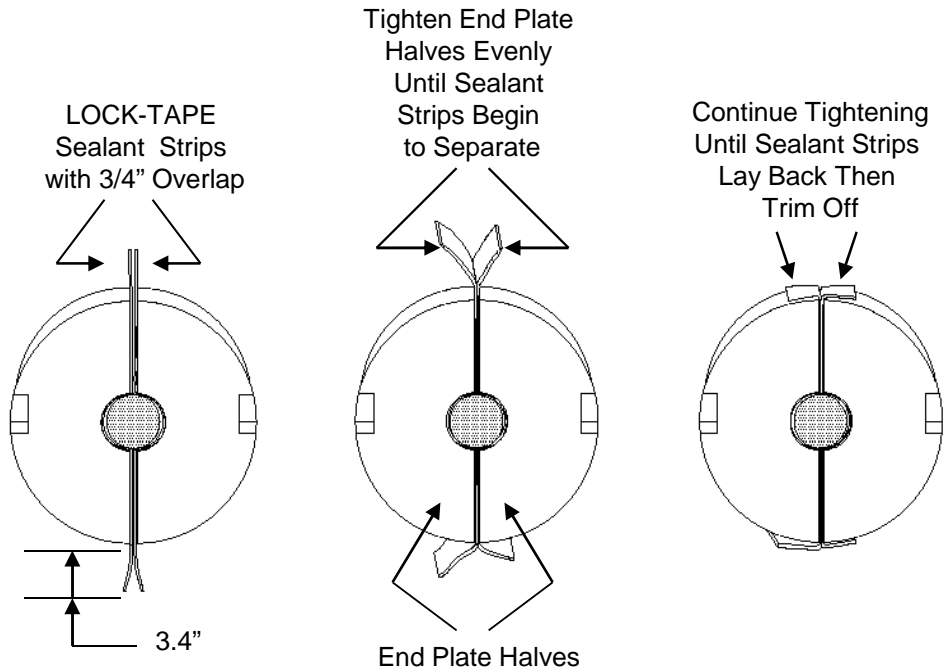

Figure 19
10.14 Use socket wrench to draw End Plate sections together evenly. Continue tightening until LOCK-TAPE Sealant Strip pieces separate and lay back. **See Fig. 19.**